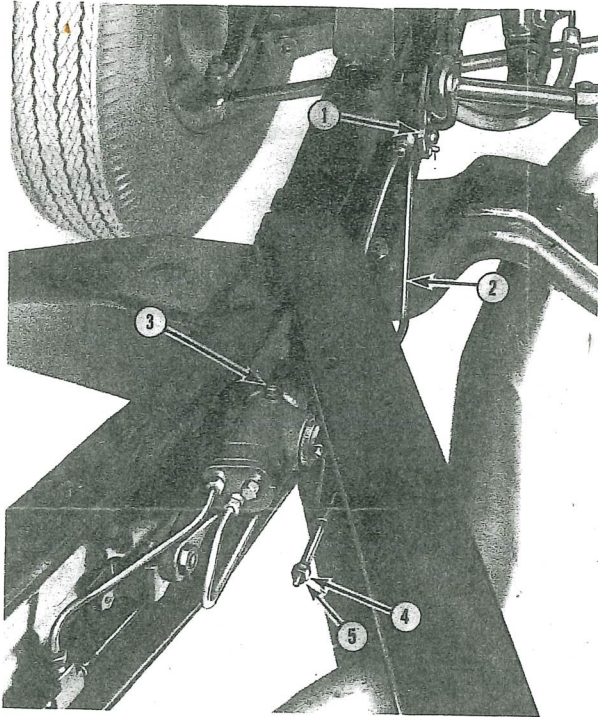

Fig. 21
1. Disconnect the hill holder operating rod (2, Fig. 21) from the clutch release shaft lever (1).